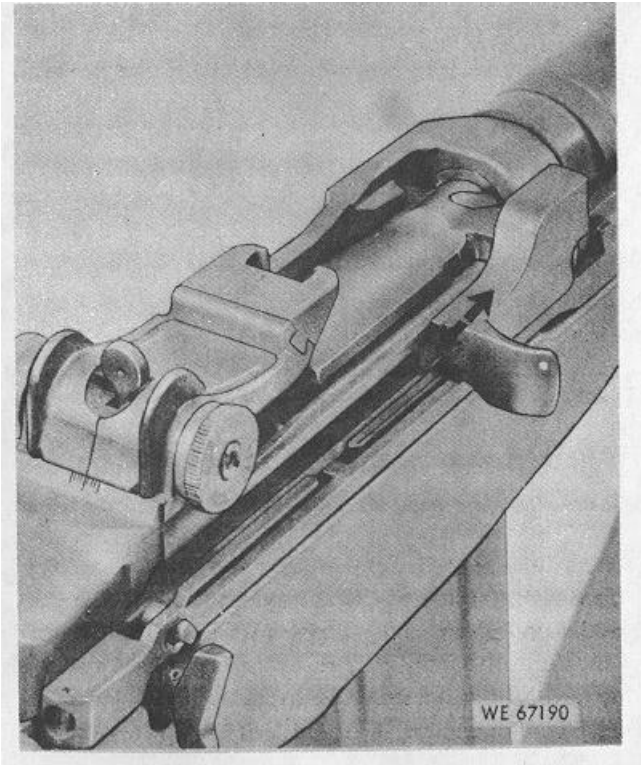

Figure 2-7. Bolt locking and unlocking.
(3) *Locking.* Locking occurs when the bolt is fully closed. The closed bolt prevents the loss of gas pressure until the bullet has left the muzzle. The bolt is locked by the rear camming surface in the hump of the operating rod forcing the bolt roller down. This engages the locking lugs on the bolt with the locking recesses in the receiver (.fig. 2-7).